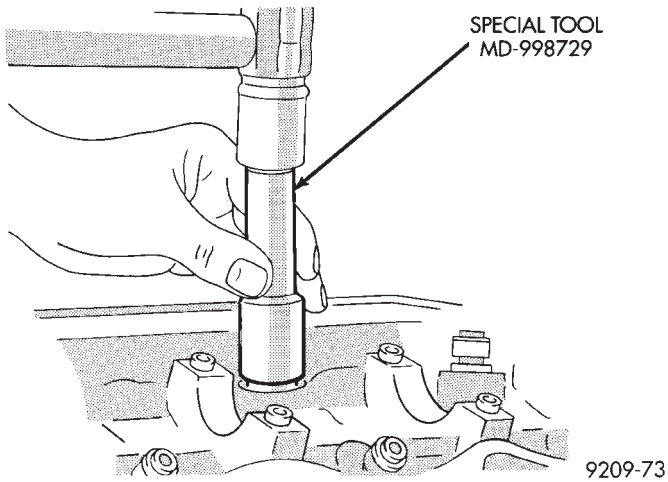

Fig. 23 Install Valve Stem Seals
- (1) Install valve spring seat.
- (2) Using suitable tool install seal by tapping lightly until seal is in place. (Fig. 23).